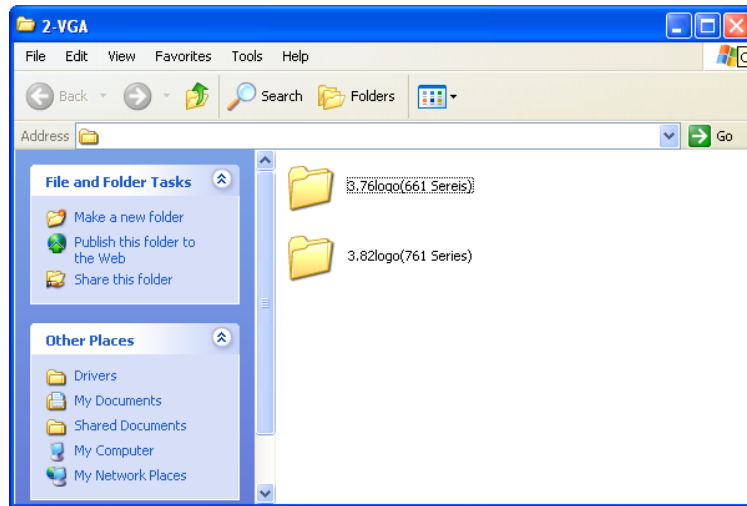

Figure 7-9: VGA Driver Directory
Step 2: The window in **Figure 7-9** appears.